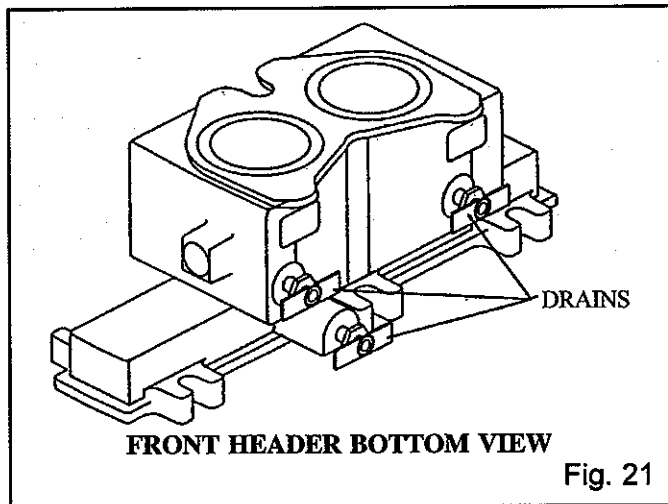

Fig. 21
5. Locate the three (3) drains on the bottom of the front header. *Figure 21*
6. Open all three (3) drains and allow the heat exchanger to drain completely. Leave drains open until Spring.